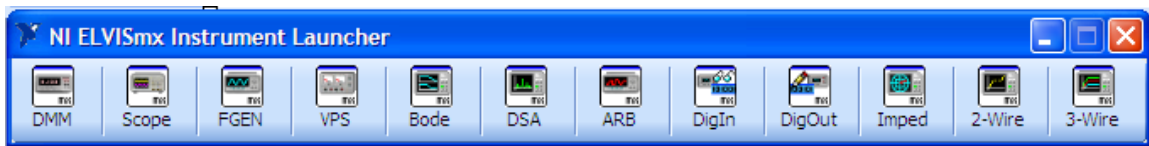

Fig. 8. NI Elvis Software interface.
6. Go to the program menu on your computer and launch NI ElvisSmx Instrument Launcher in the NI ElvisSmx program. The interface should appear on your screen as shown in figure 8. This interface shows all the Virtual Soft Front Panels (SFP) available in NI Elvis.